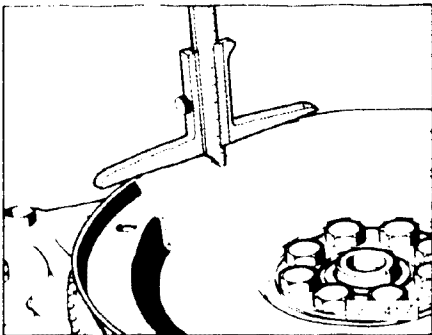

Fig. 1 Measuring drive plate inside dimension
- measure drive plate for adjustment as shown in Figure 1 and 2
- average distance from drive plate to cylinder block (Fig. 2) minus drive plate inside dimension (Fig. 1) must equal 17.2-18.8 mm (0.68-0.74 in.)